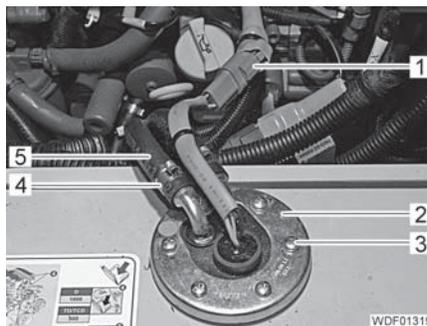

Fig. 442 Fuel level sensor attachment
- Disconnect the plug (Fig. 442,1).
- Close off the fuel lines (Fig. 442,5).
- Remove the 2 clamps (Fig. 442,4).
- Unscrew the 6 screws (Fig. 442,3).
- Pull out the fuel level sensor (Fig. 442,2).
- Insert the fuel level sensor (Fig. 442,2) into the fuel tank.
- Screw in and tighten the 6 screws (Fig. 442,3).
- Plug the fuel lines (Fig. 442,5) with clamps (Fig. 442,4) onto the fuel level sensor.
- Secure the 2 clamps (Fig. 442,4).
- Connect and secure the plug (Fig. 442,1).